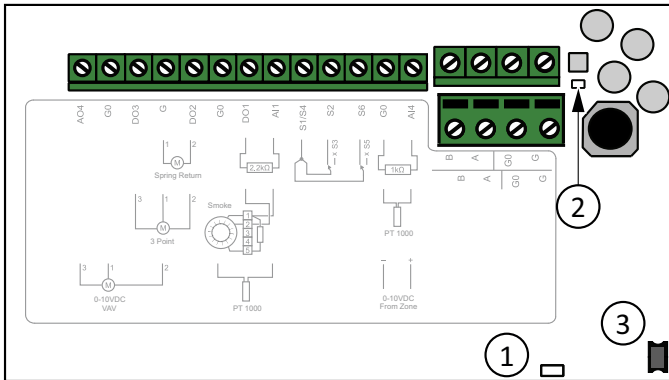

Figure 4 Inside the SCS-S2. 1= LED light for identification, 2= LED light for communication, 3= Push-button
When identified, LED light 1 in the unit will start blinking, see *Figure 4*.
3. LED light 1 in the unit will start blinking for approx. five (5) seconds, see *Figure 4*.
2. Press the button in the unit, see *Figure 4*
It's possible to reset the device to factory settings via the button, see *Figure 4*.
1. Push and hold the button for 10 seconds. LED 1 (*Figure 4*) will turn red.